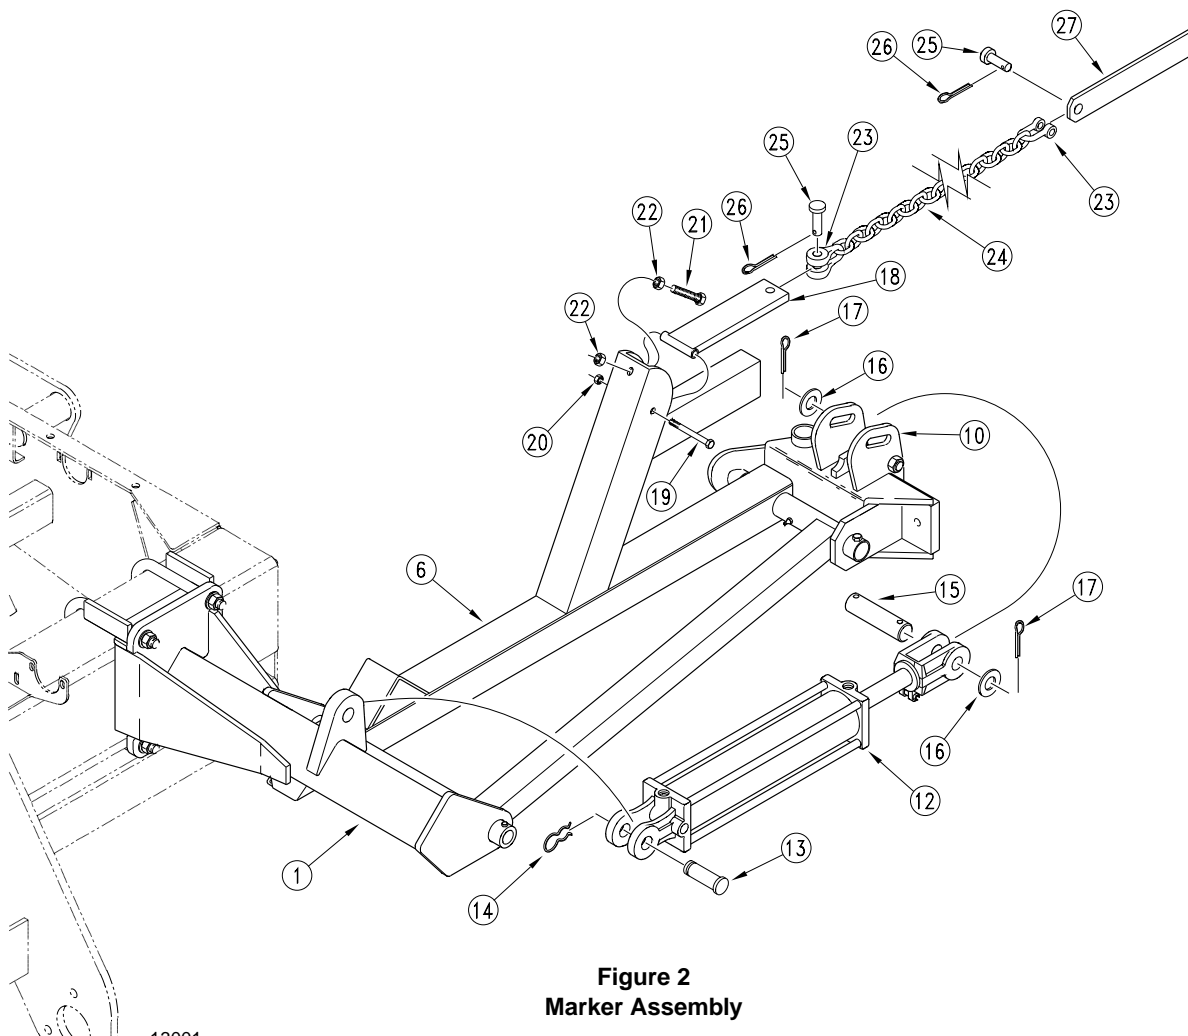

Figure 2
Refer to Figure 2.
- a. **Lifting Slack.** Start with the marker in the unfolded position. Back the adjustment bolt (Figure 2, page 2, 21) down until the head extends as little as possible. Slowly fold the marker, observing the motion of the disk. If the marker disk slides across the ground more than about one foot before the chain and linkage lifts it up, the chain is too slack. Tighten the chain by moving the clevis one or two links at the inboard end of the chain. Recheck by repeating this process.